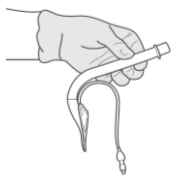

Figure 1: Hold the LMA SureSeal™ PreCurved in position
**2.** Hold the LMA SureSeal™ PreCurved in position. (Fig. 1)